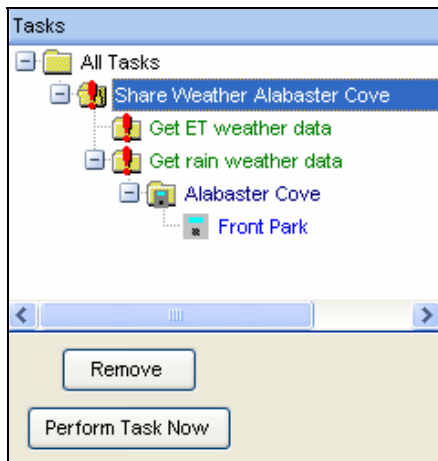

Figure 12.1.15
- left click on the controller holding down the mouse button drag and drop the controller into the **Get ET weather data** folder (Figure 12.1.15)